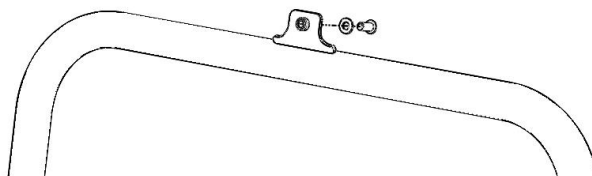

FIGURE 02
5. Slide the lower freeway bar mounts over the outside of the lower frame down tubes and align the hole in the freeway bar brackets to the upper hole on the frame. Then insert the 3/8-16 buttonhead bolts, with flat washers, through the lower freeway bar brackets and into the upper threaded holes in the frame down tubes. See **FIGURE 02**. Snug the bolts but do not tighten at this time.